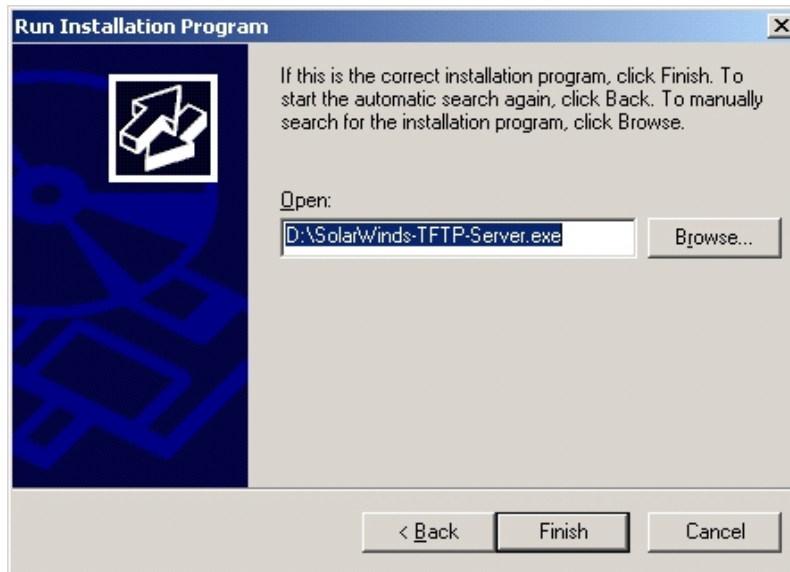

Figure B-2.8
8. Highlight the **Solar Winds-TFTP Server** icon and select **Open**. The *Run Installation Program* dialog box displays (see figure B-2.8).